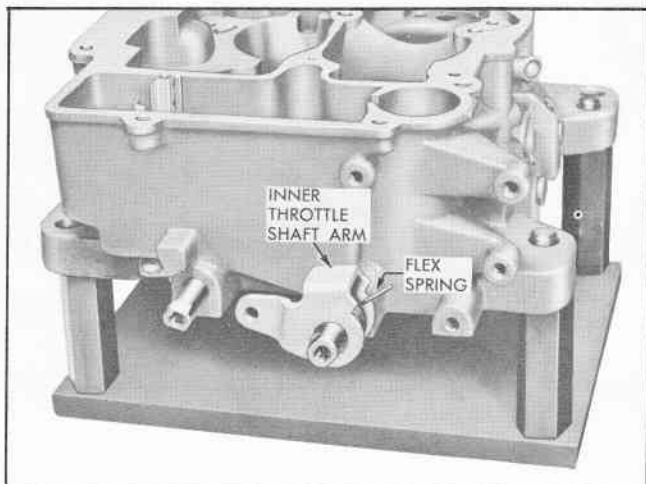

Fig. 17 Inner Throttle Shaft Arm and Flex Spring Installed
6. Install inner throttle shaft arm and flex spring on primary throttle shaft (Fig. 17).